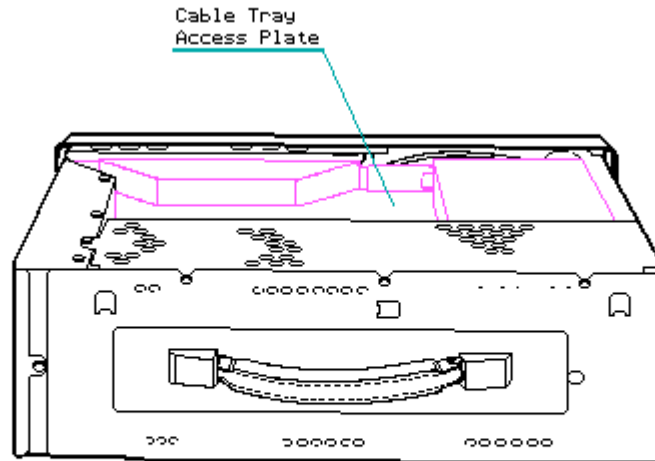

Figure 7-30. Exposing the Cable Tray Access Plate
3. Turn over the system chassis as illustrated in Figure 7-30.